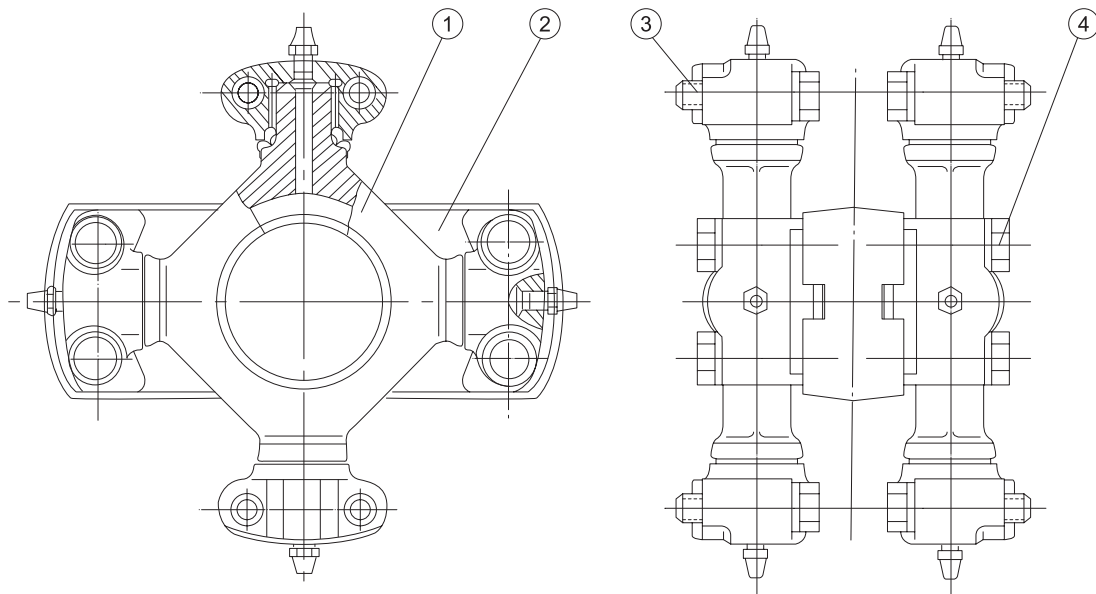

Figure 3-13
3.3 UNIVERSAL JOINT (FIGURE 3-13)